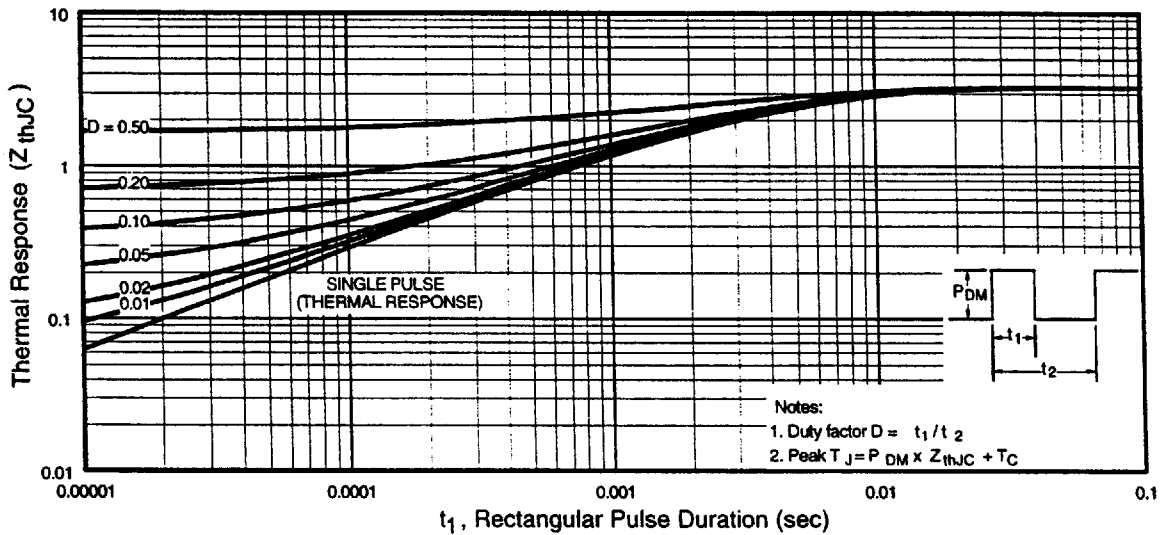

Fig 11. Maximum Effective Transient Thermal Impedance, Junction-to-Case
- ① Repetitive rating; pulse width limited by max. junction temperature. (See fig. 11)
- ② Starting $T_J = 25^\circ\text{C}, L = 2.8mH$